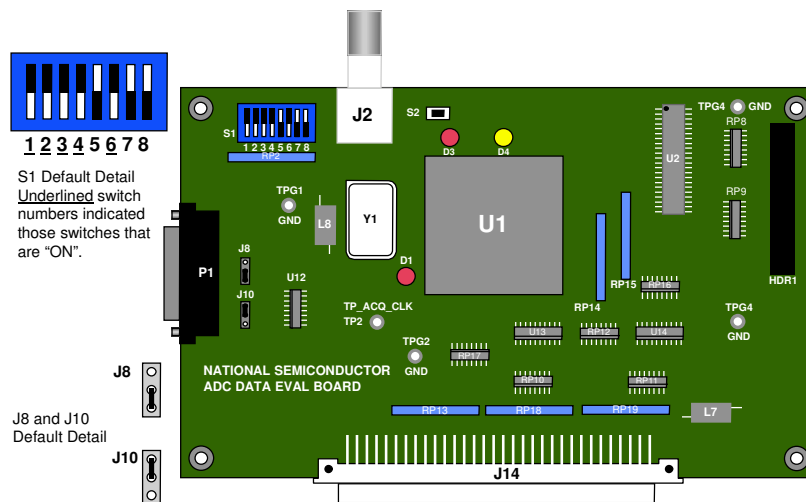

Figure 1. Component Location.
The Digital Interface Board comes ready for operation. Refer to Figure 1 for the location of various components on the board.
3. Connect an interconnecting cable from the board connector P1 to a communications port on your PC. If the interconnecting cable is a 1 to 1 cable without pins 2 and 3 swapped, jumpers J8 and J10 should be connected in their default positions, as shown in Figure 1. If these pins are swapped, the cable is a null modem type. A null modem cable may be used if pins 1 and 2 of jumper J8 and pins 2 and 3 of jumper J10 are shorted together.
Refer to block diagram Figure 11 and schematic Figure 12 and Figure 13 for components and to Figure 1 for major component locations.
Refer to Figure 1 for locations of components on the board.